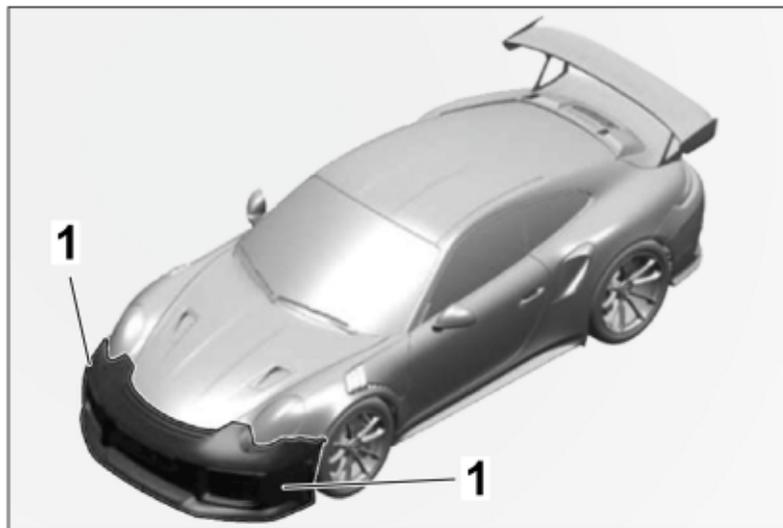

Figure 28
5.1 Mount the flaps, installation position of the flaps ⇒ *Figure 28 -1-*. The flaps are mounted on the side surfaces of the front apron.